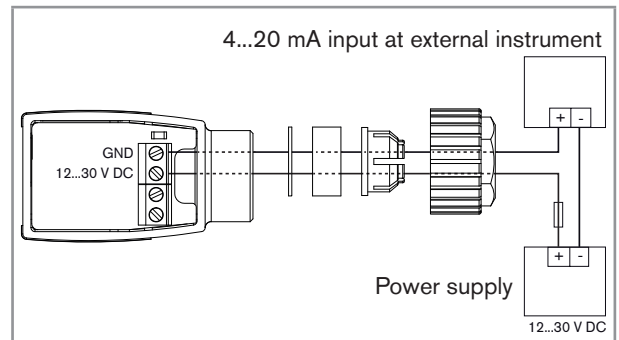

Fig. 3: Device with cable gland – Connection of the current output
- Connect the 4...20 mA current output (2-wire connection). Refer to Fig. 3.